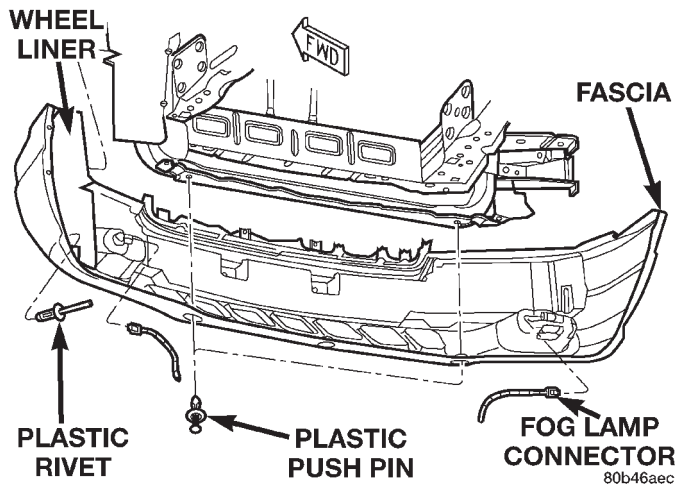
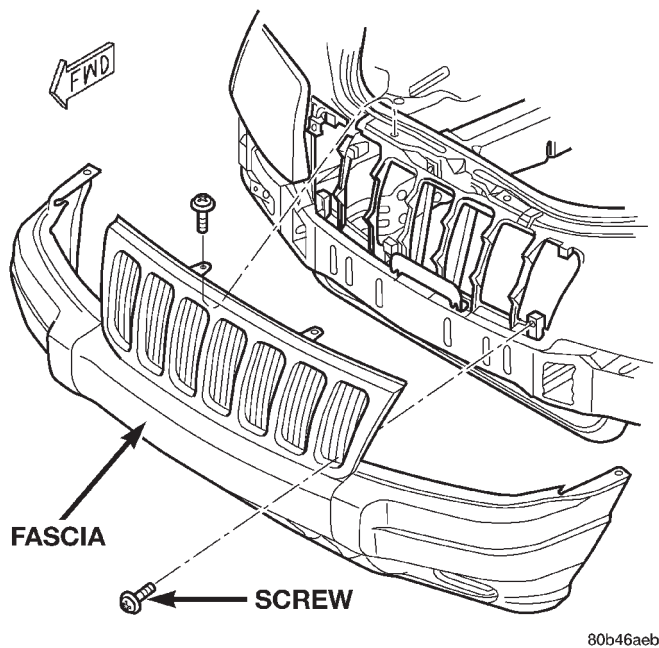

Fig. 2 Front Fascia
Fig. 3 Front Fascia
- (4) Remove plastic push pin fasteners attaching front fascia to lower radiator crossmember splash shield (Fig. 2).
- (5) Disengage fog lamp connectors, if equipped.
- (6) Remove screws attaching fascia/grille to upper radiator crossmember (Fig. 3).
- (7) Slide fascia forward to separate from vehicle.